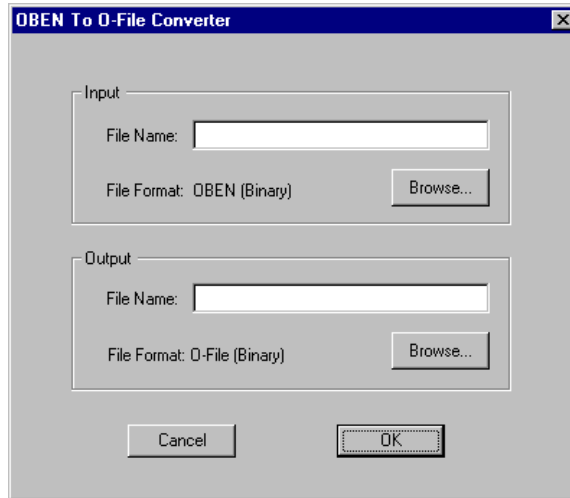

Figure 2.18. OBEN to O-File Converter Dialog Box
1. Click the OBEN... button on the MConvert main window to open the OBEN to O-File Converter dialog box (Figure 2.18).